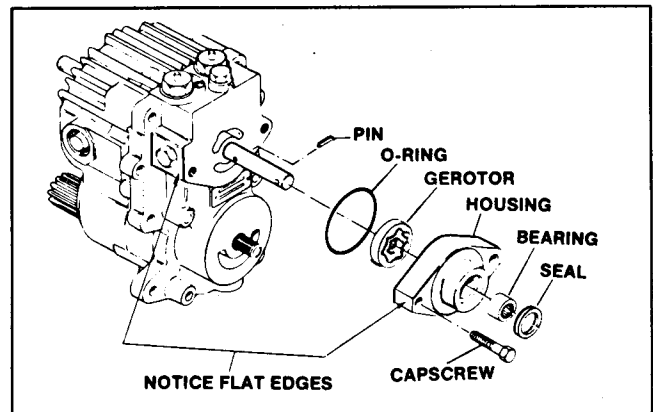

Figure 34
4. If the charge pump seal (Fig. 34) is the only part being serviced, pull the seal out of the charge pump housing using an oil seal puller or similar tool. Do not scratch the pump shaft. Since oil flows out of the transmission when the seal is removed, use a drain pan to catch the oil; however, do not use this oil again. Use a seal protector on the pump shaft and slide the new lip seal into place.
**NOTE:** The charge pump housing and the transmission case have a flat edge on the side where the two parts meet (Fig. 34). These flat edges must be installed next to each other on the left-hand side of the transmission during reassembly.
6. Remove the cap screws holding the charge pump housing against the adjacent pump housing (Fig. 34).
7. Examine the gerotor wheel (Fig. 34) and the inside of the charge pump housing for excessive wear patterns, scratches, or score marks. If a part is damaged beyond repair, replace it.
10. Apply oil on the gerotor wheel and on the inside of the charge pump housing. Slide the drive pin through the hole in the pump shaft. (It is helpful to have this hole positioned horizontally, as shown in Fig. 34, to keep the pin in place during reassembly.) Then slide the gerotor wheel onto the pump shaft and over the drive pin so that positive engagement results.
The charge pump housing is marked with a flat edge. This is used to denote which side of the charge pump is mounted towards the left-hand side of the transmission for a given direction of engine rotation (eg. clockwise). The Groundsmaster 220-D mower application requires that the flat edge be toward the left-hand side of the transmission (see Fig. 34). Having the flat edge toward the right-hand side of the transmission will result in a complete loss of hydraulic functions.